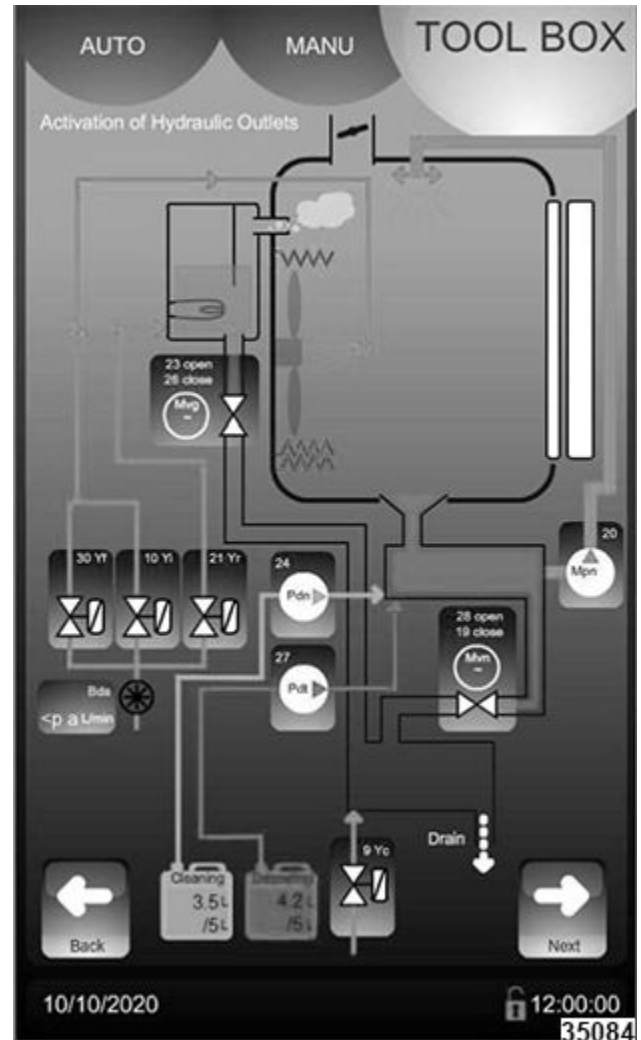

Fig. 146
- The **Activation Hydraulic Outlets** screen (Fig. 146) provides the following indications / controls: